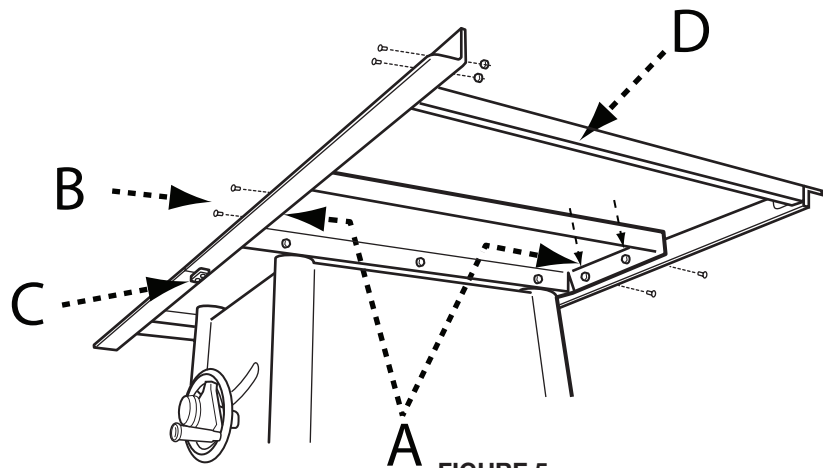
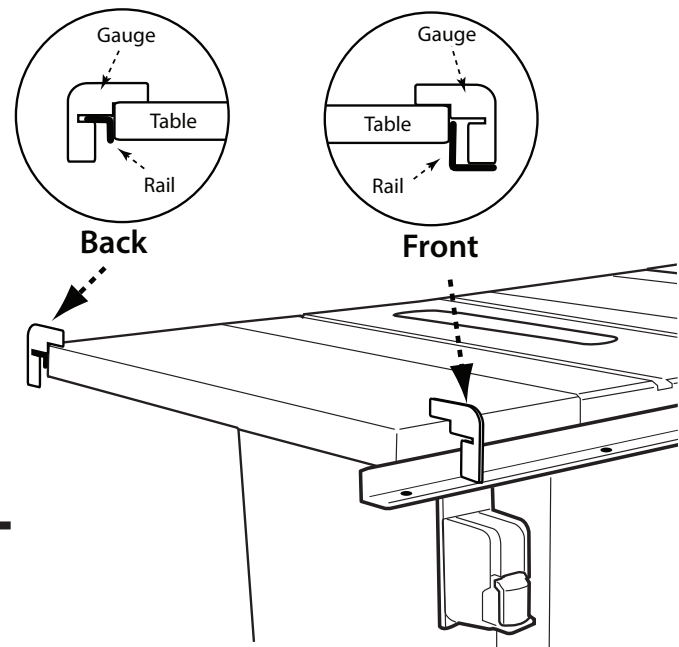

FIGURE 5
FIGURE 6
1. Attach the front rail halves (2" X 2" angles 36 3/4" and 20" long) to the table front and extension wings. Align the holes (A) in the front of the table top with the holes (B) in the left (short) and right (long) sections of the front rail, as shown in Figure 5, and attach using four 5/16-18 x 1 1/8" flat head screws, 5/16 lock washers and 5/16-18 hex flange nuts.
2. Attach the rail union plate (C) using two M5 x 16 shoulder bolts and M5 nylock nuts in the two holes where the rail sections meet.
3. Use supplied rail alignment gauge to ensure the rails are the proper distance from the top of the table. See Figure 6. The front rails have holes on both surfaces of the rail for attachment to both the table and the fence guide.
5. Attach the spreader bar (D) to the outboard end of the front and rear rails using M8 x 16 shoulder bolts and M8 nylock nuts. See Figure 5.